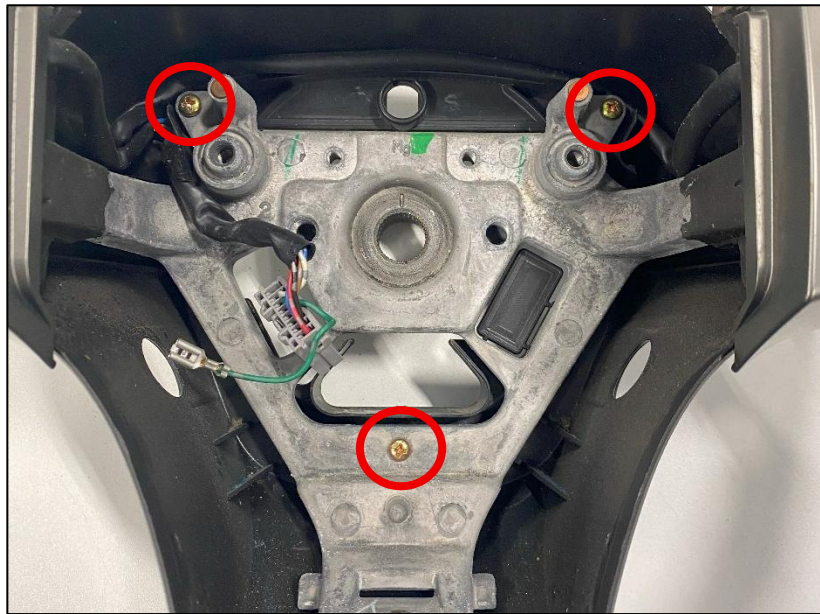

Figure 8
14. Remove the (3) three Philips Head Screws securing the rear plastic trim to the vehicle. *Figure 8.*